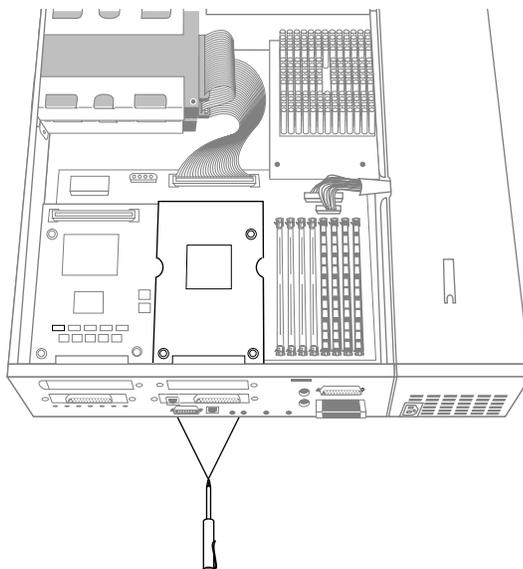

Figure 2-19 Inserting the GIO Screws From the Rear of the Server
2. Insert and tighten the two screws through the rear of the server, as shown in Figure 2-19. If the screw holes do not line up, the board may not be seated all the way, or one of the screws may be screwed down too tightly.